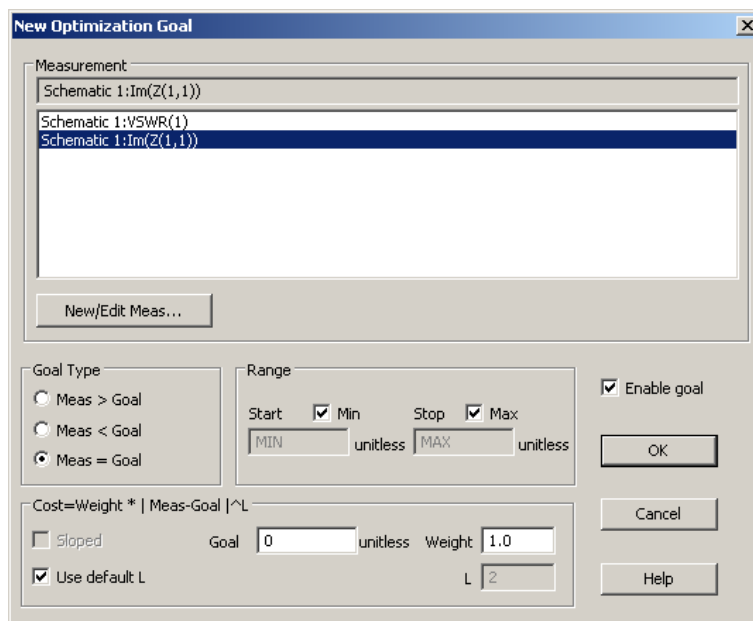

Figure 8.14: Chart 6 : Optimisation Goals Dialogue Box
- Change the ‘New Optimisation Goal’ dialogue box to look like figure 8.14. Carefully note each option, or your optimisation will provide an incorrect result.